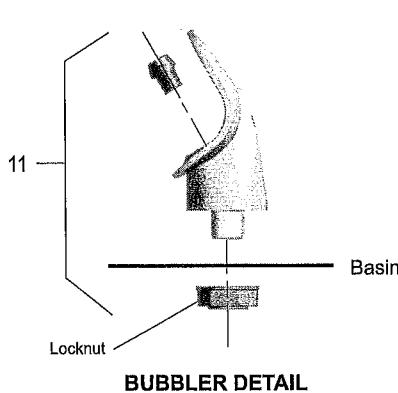

Fig. 11
16) Remove filter from carton, remove protective cap, attach filter to filter head by firmly inserting into head and rotating filter clockwise. Ensure that blue label can be read when filter is installed. (See Fig. 11, Pg. 7).
6) Insert new filter into existing filter head and turn fully clockwise. Make sure you can read the label on the front of the filter once it is installed. (See Fig.11, Pg. 7).